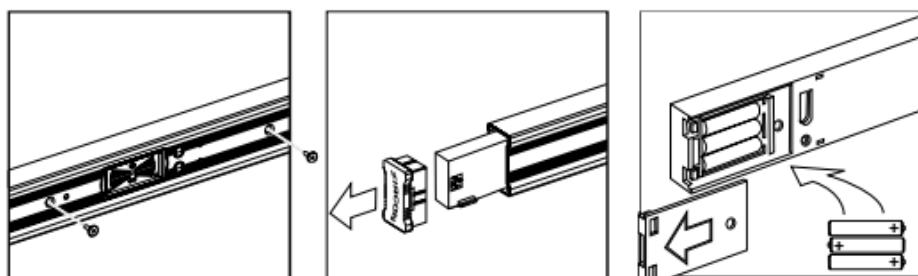

Figure 15: Replacing the Batteries in the Level Module
- Undo the battery compartment on the back of the module and replace the batteries (Figure 15 below).